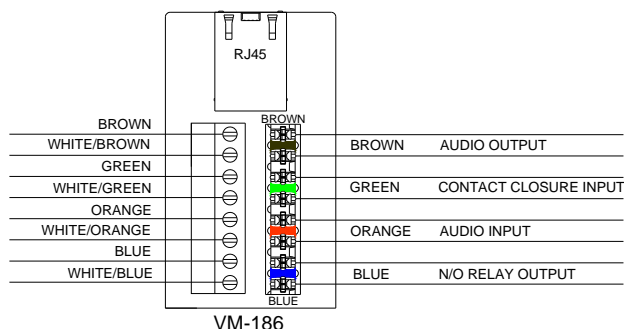

Figure 2. VM-186 RJ-45 Connector
**Networked Channels:** Access to the networked audio is via four rear panel RJ-45 connectors. Provided with the VE8004/VE8004R are four RJ-45 patch cables and four VM-186 RJ-45 Connectors. Signals connections are made by connecting one end of a patch cable to the VE8004/VE8004R and the other to the VM-186 connector. Access to the signals is via screw terminal connections or 110-style punchdown block on the VM-186 (see Figure 2). Signals are present on pairs of pins as shown in Figure 2.